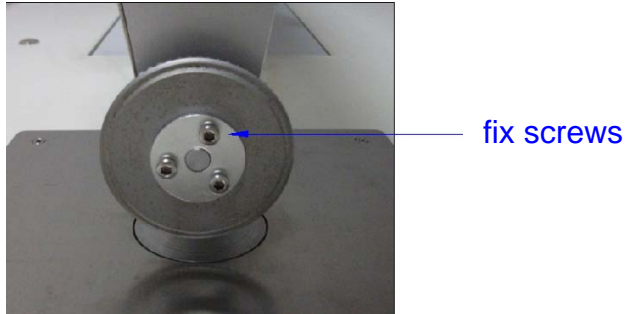

Fig. 6
■ Replace of the cutter wheel (as shown in Figure 6)
Remove the three screws which fix the wheel, then, you can change the cutter wheel. (as shown in Figure 6).